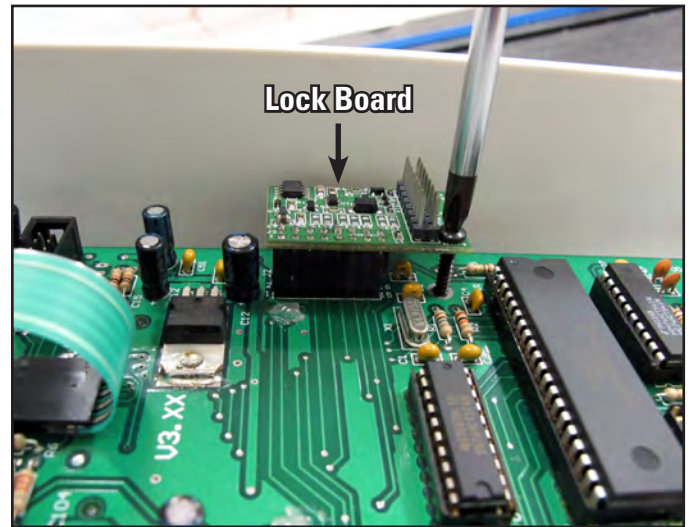

**Figure 3.41**
8. Make sure the power cord is fully inserted, and then tighten the two P-Pod screws so they hold the clamp securely against the P-Pod. Insert the small screw included with the retaining clamp into the clamping portion of the retaining clamp and tighten so the clamp is now tight on the power cord as shown in **Figure 3.41**.